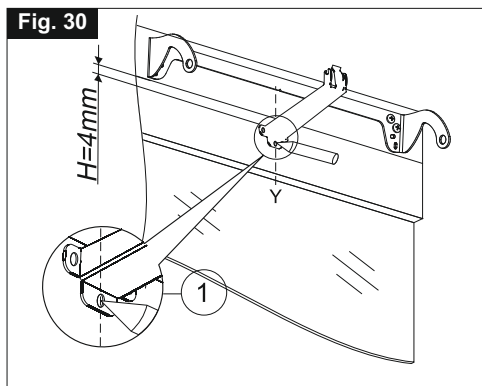

Fig. 31
- 7) **Fig. 31/32-** With a suitable drill, perform 3 holes on the wing and tighten the bracket with proper screws;